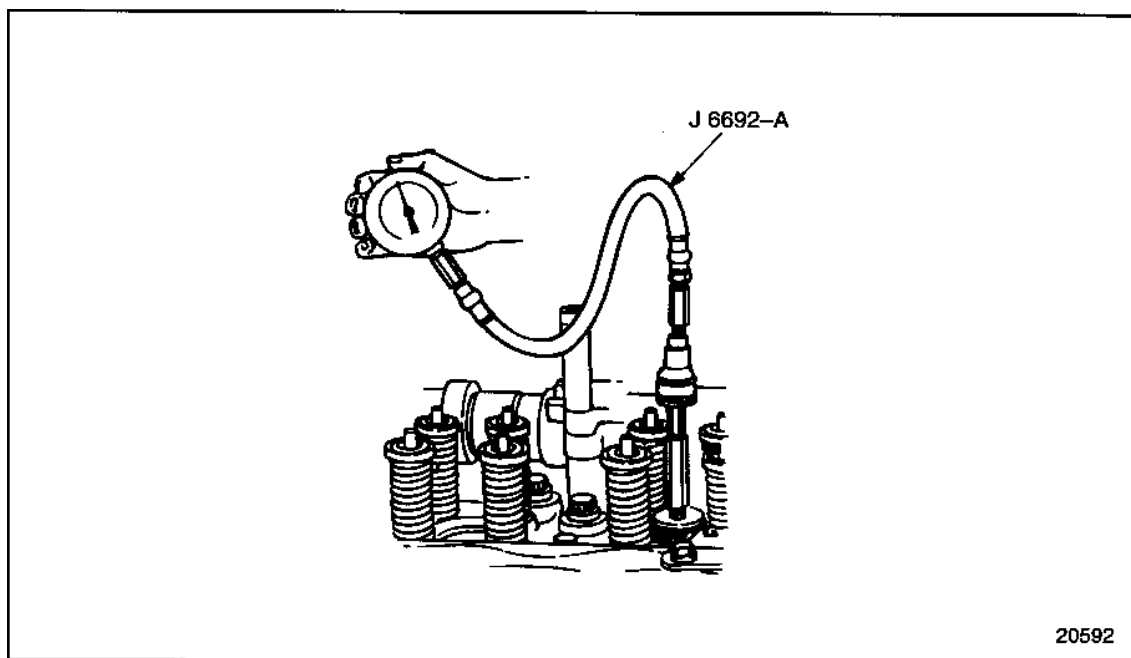

Figure 29-5 Cylinder Leakage Tester
17. Attach cylinder compression gauge J 6692-B to first adaptor. See Figure 29-5.